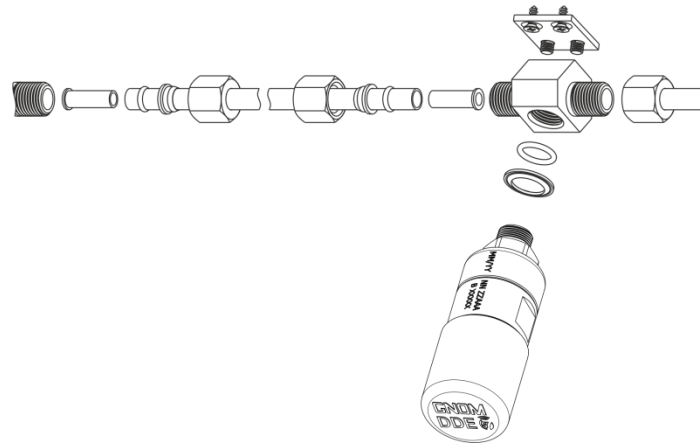

Figure 15 — Procedure for GNOM DDE S7 mounting, according to Mounting scheme 4
- 3) You may mount the sensor **in the mounting location of the pipe $\varnothing=8$ mm**, in accordance with **Mounting scheme 4** (see figure 15).